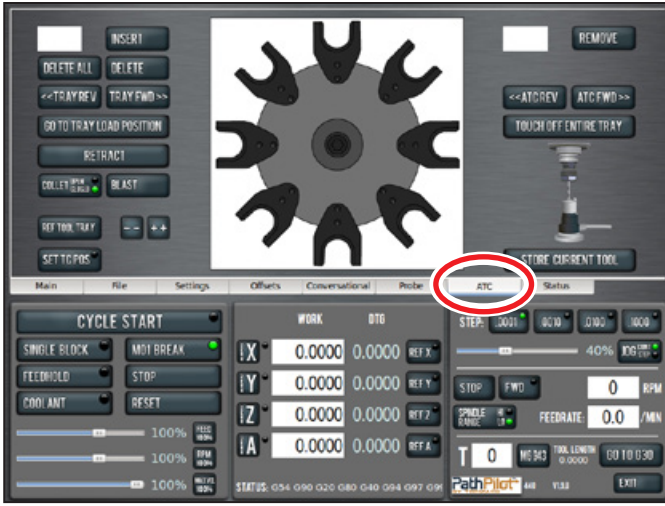

Figure 21
2. From the PathPilot interface, on the ATC tab, click the *Ref Tool Tray* button (see **Figure 21**).
3. Click the *Go to Tray Load Position* button (see **Figure 21**).